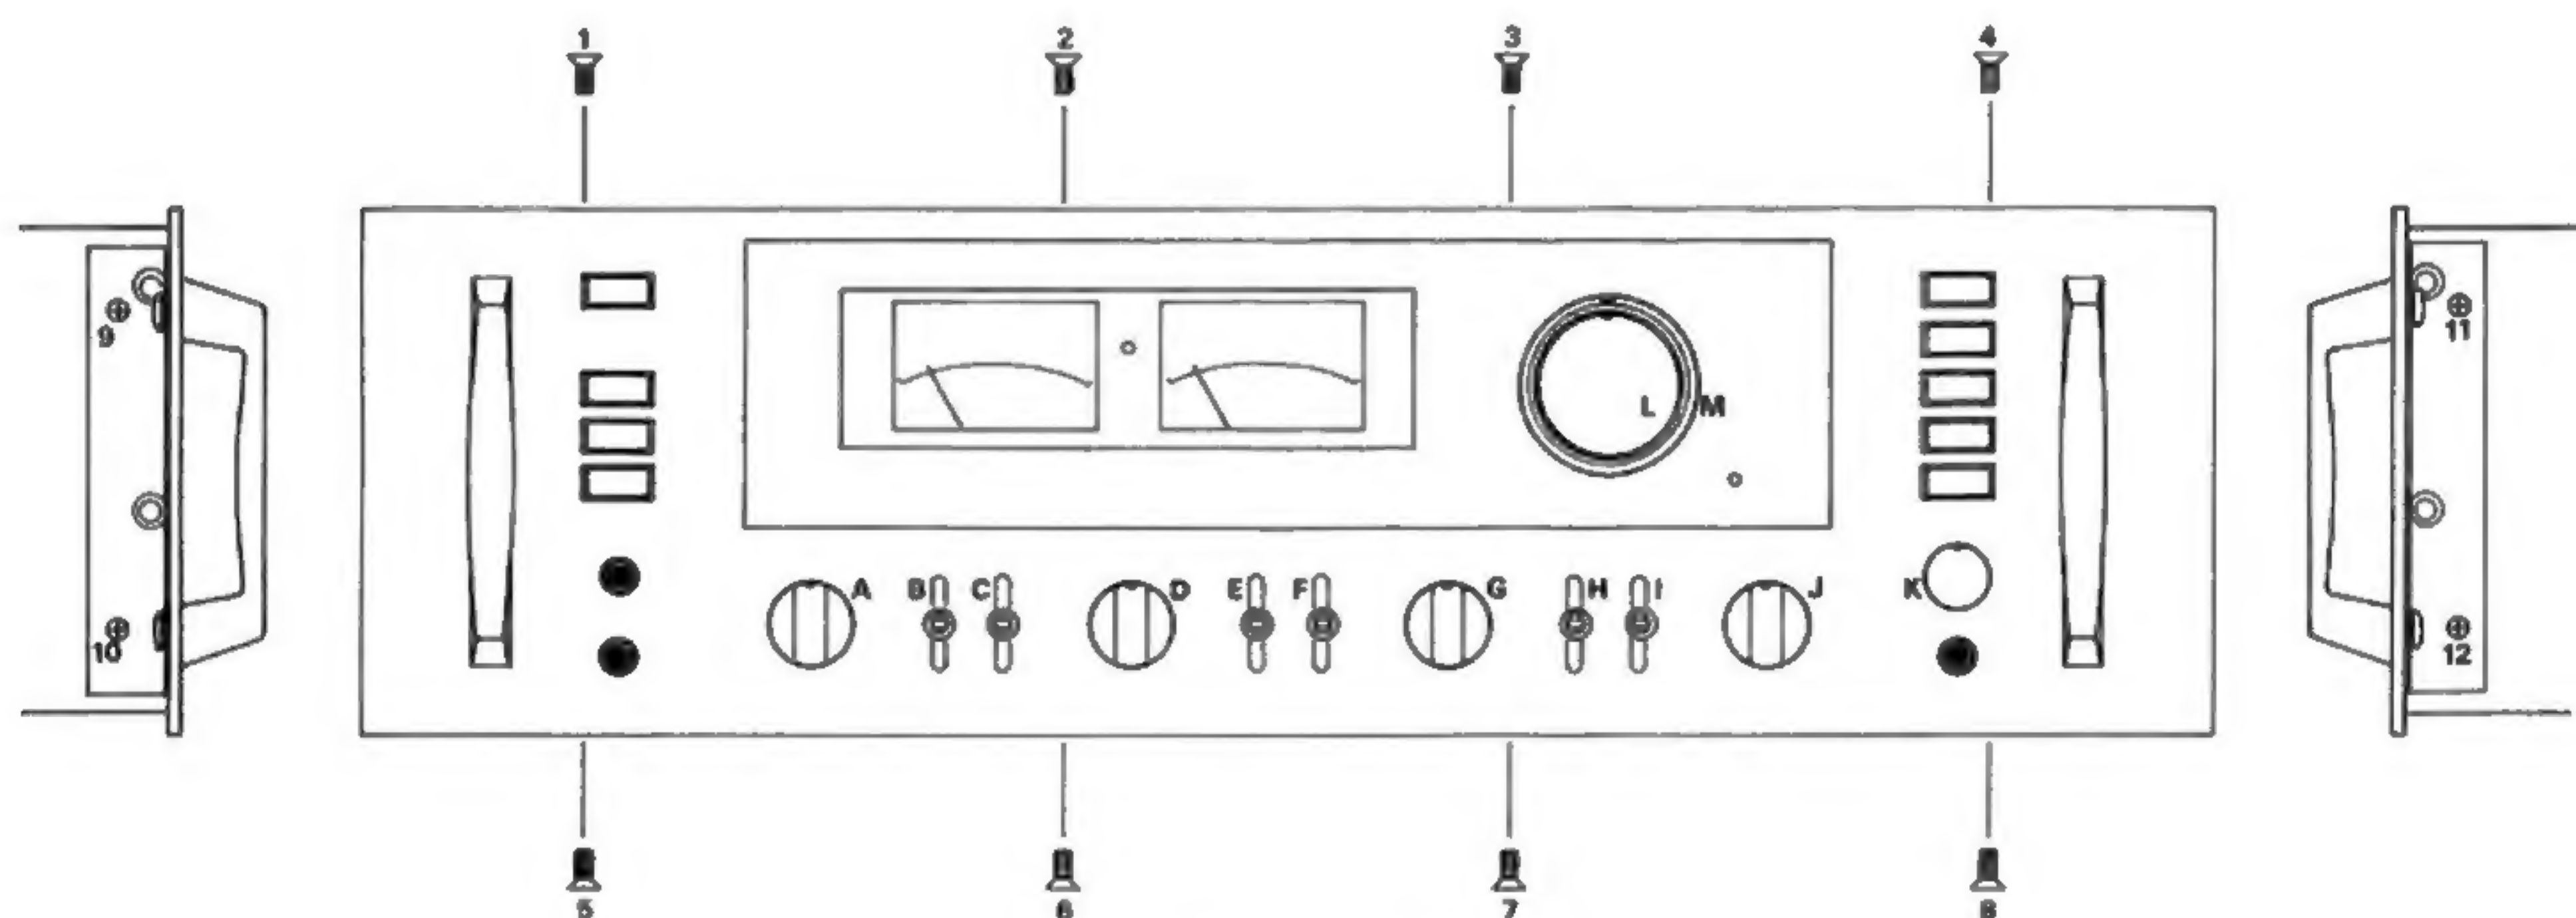

Fig. 1-3 FRONT PANEL
- a) Remove all knobs (Fig. 1-3, knobs A-K) except Push Switch.
- b) Unscrew the 4 mounting screws on left and right panels (Fig. 1-3, screws 9-12).
- c) Unscrew the 8 mounting screws on upper and lower portions. (Fig. 1-3, screws 1-8).